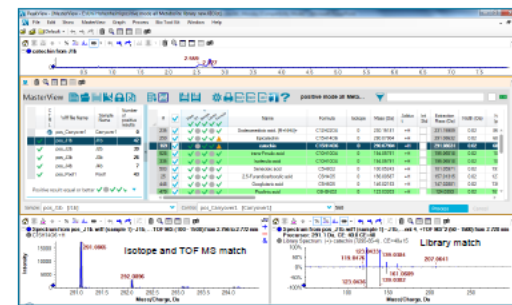

Figure 7. The Accurate Mass Metabolite Spectral Library and MasterView™ Software.
**Step 4:** Importing the non-targeted results from the multivariate statistical analysis and subsequently processing in MasterView™ software along with the Accurate Mass Metabolite Spectral Library confirmed the presence and relative amounts (in relation to other groups) of catechin, quercetin, kaempferol and phloretin as well as several endogenous organic acids (Figure 7). The top pane shows the XIC of the line chosen (in this case catechin), the center pane contains the report information and formulas and the bottom two panes show the library matches of MS and MS/MS spectra.